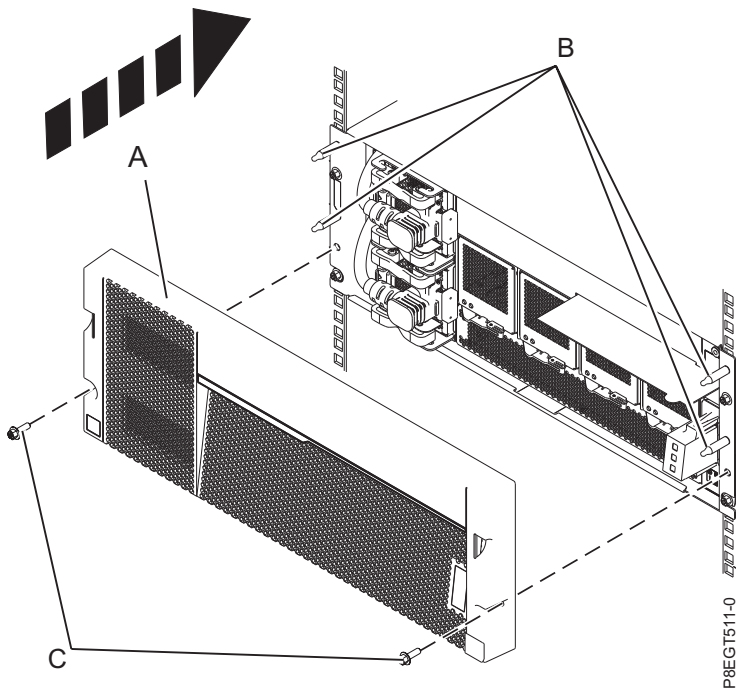

Figure 16. Replacing the front cover
2. Replace the front cover (A) by pressing the cover onto the locating pins (B). If the cover had screws (C) when the cover was removed, secure the cover with the screws. See Figure 16.